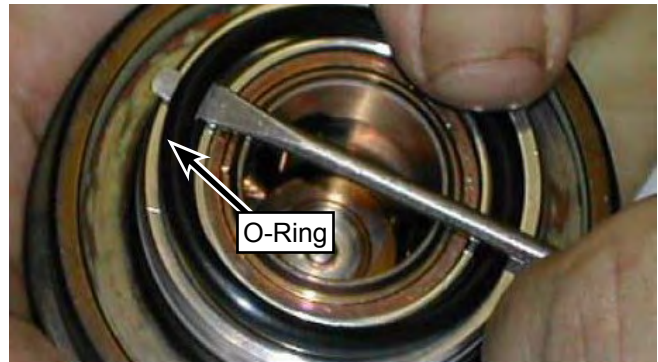

Figure 79: Remove O-Ring.
1. Remove the O-ring at each end of the valve (Figure 79). Discard the O-rings.